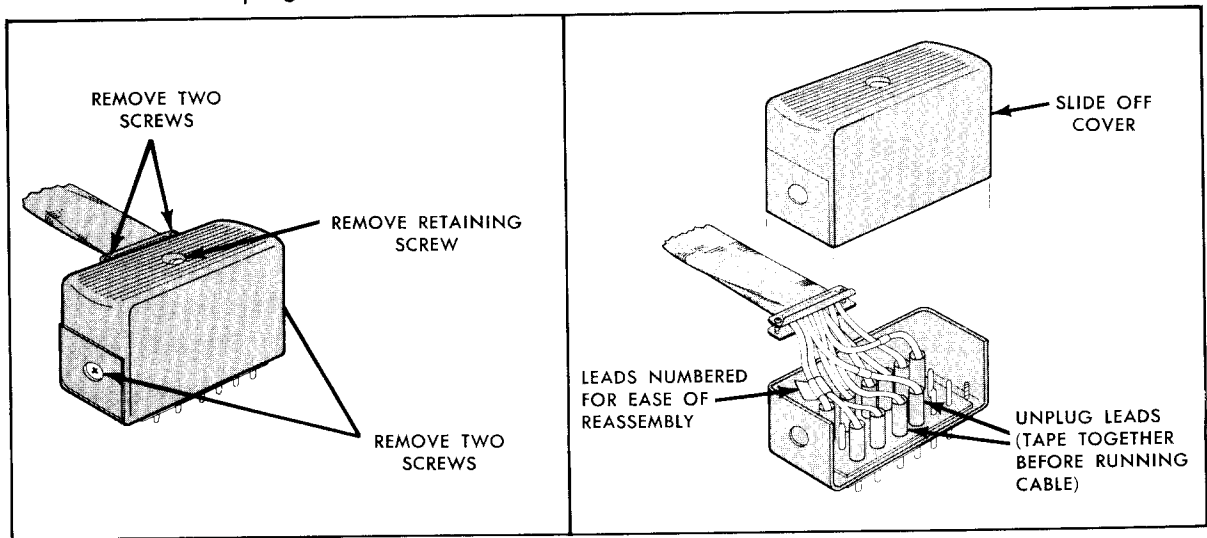

Figure 6—Disassembly of 26-Pin Control Cable Plug
2. Run the Control Cable to the vicinity of the Control Unit. If it is necessary to disassemble the 26-pin plug to run the cable, refer to Figure 6. Replace the leads starting at the center of the plug and working to each end.